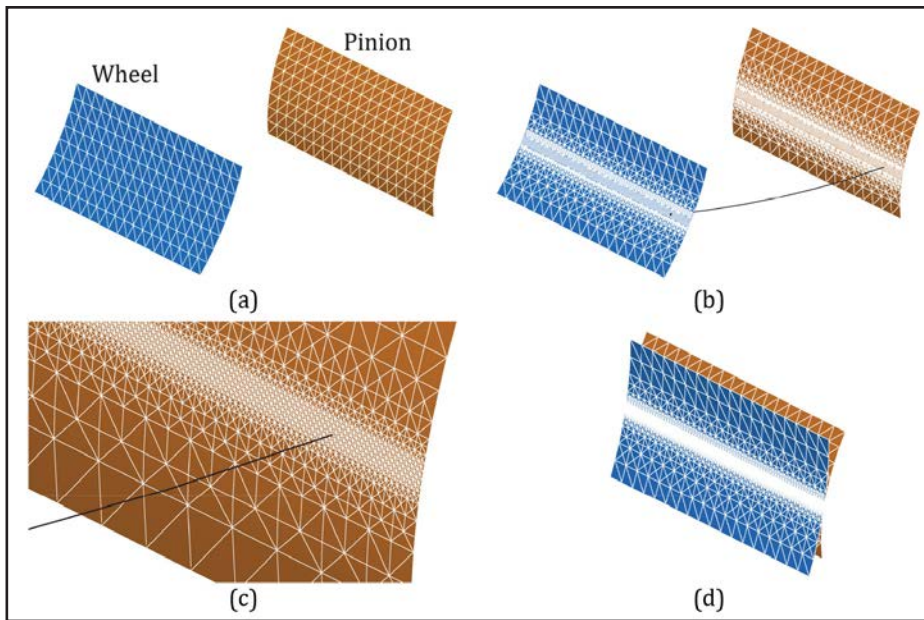
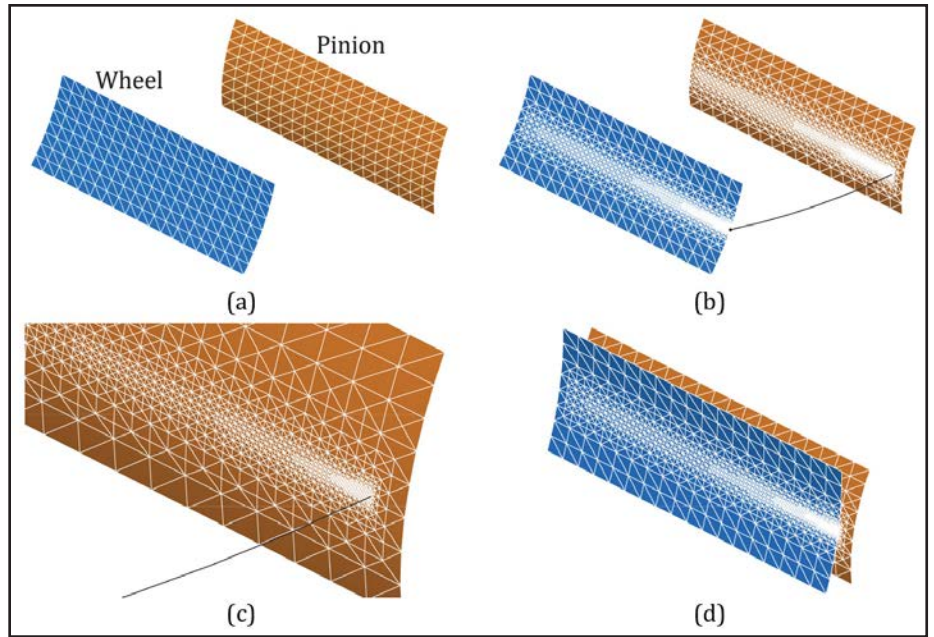

Figure 1 Results of the positional contact problem for case I.
Figure 4 Results of the computation of the bearing contact for case II.
**Case II: standard spur misaligned gearset.** In the second case, the wheel has been misaligned with respect to the pinion. The imposed misalignment consisted in the displacement of the wheel  $-0.5$  mm along the Z axis and the rotation of the wheel  $0.1^\circ$  around the X axis (see axis in Fig. 1). Similarly to case I, Figure 4 shows the intermediate results of the algorithm to solve the positional contact problem associated to a specific position of the gearing cycle. It can be observed how the contact type is point contact due to the misalignment and how the algorithm refines the mesh adaptively to compute the